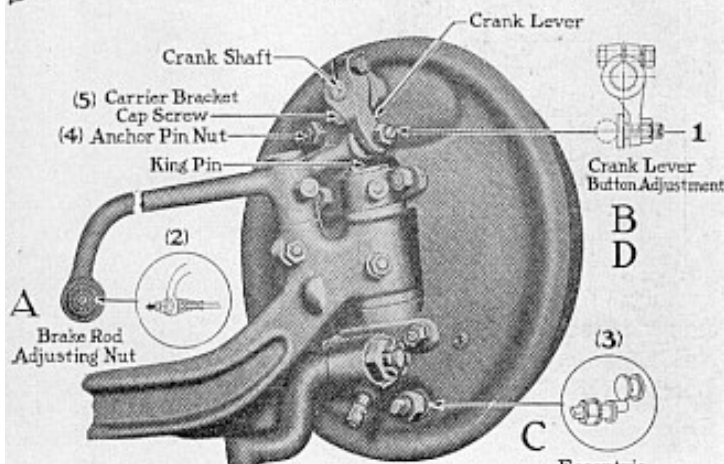

Fig. 2—Frame side of left hand front brake
A. Turn front rod adjusting nuts (2, Fig. 2) until center line of ball on lever is  $\frac{1}{4}$  in. to  $\frac{5}{16}$  in. back of center line of steering king pin with brake pedal and hand brake lever in released position.
B. Loosen lock nut on crank lever button adjustment (1, Fig. 2), and turn slot to left with screw driver until brake shoes are free.
C. Loosen eccentric adjustment lock nut (3) and turn eccentric in same direction in which wheel revolves when car moves forward, until brake is tight against drum, then back off gradually until wheel is just free. Hold eccentric and tighten lock nut.
D. Turn crank lever button adjustment (1) to the right until brake binds, then back it off until wheel is just free. Tighten lock nut.